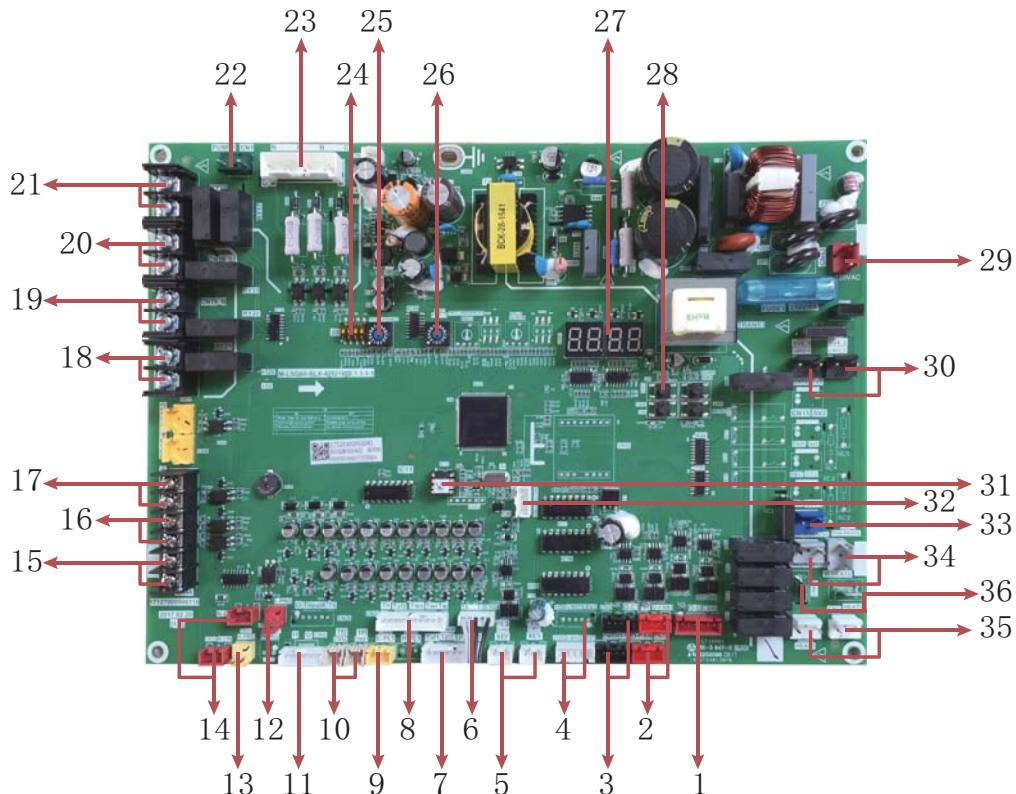

Fig. 5-4
5.5.2 Indicating diagram of electric control of main control board (see Fig. 5-4)
5.6 Detail description for parts in fig. 5-4